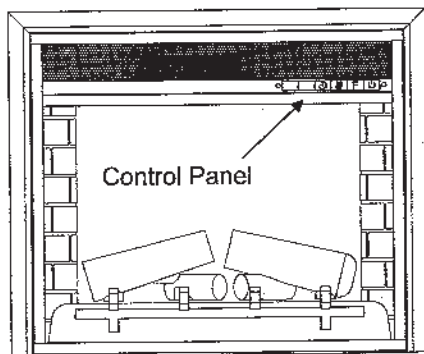

Figure 4
1. Using the touchpad control panel, located on the upper left-hand of the fireplace(Figure 4)